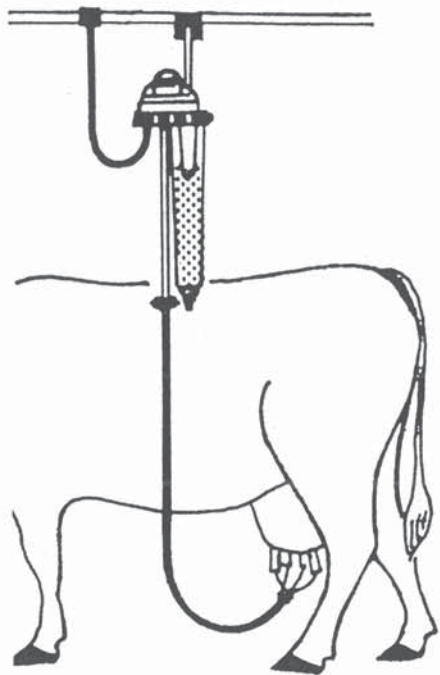

FIG 6
Connect a hose from the milk claw to the inlet tube (Fig 1, item 13) and the milking pipeline or vacuum source to the outlet tube (Fig 1, item 9) as pictured in Fig 6.